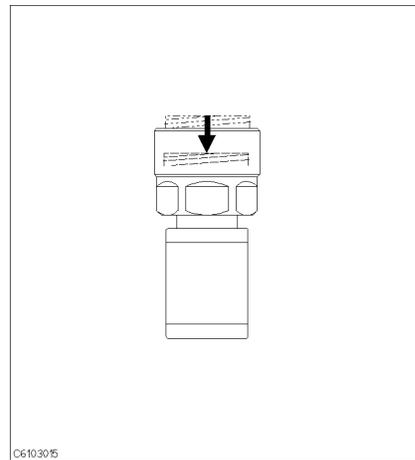

Figure 3-10.
13. Verify that the connector sleeve is retracted fully as shown in Figure 3-10.